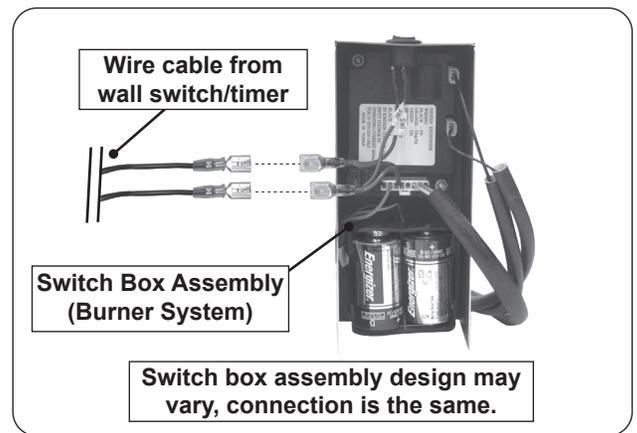

Fig. 2-1 Connect to 01/02 valve
2. Locate the two free wires on the switch box and connect to them. Ensure all connections are fully attached. See Fig. 2-1.